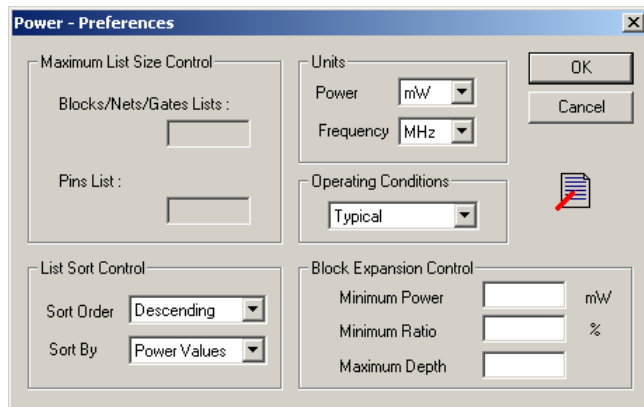

Figure 2-3. Preferences Dialog Box
2. **For additional Power Report Options, click the *Options* button.** This displays the Preferences dialog box, as shown in Figure 2-3.
3. **Select analysis preferences.** The default settings are shown in Figure 2-3. You have the following options for your Power Report: